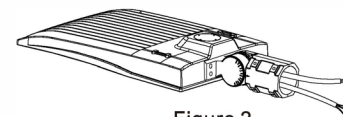

Figure 2
Step 2. Install the bracket to the fixture (Figure 2)